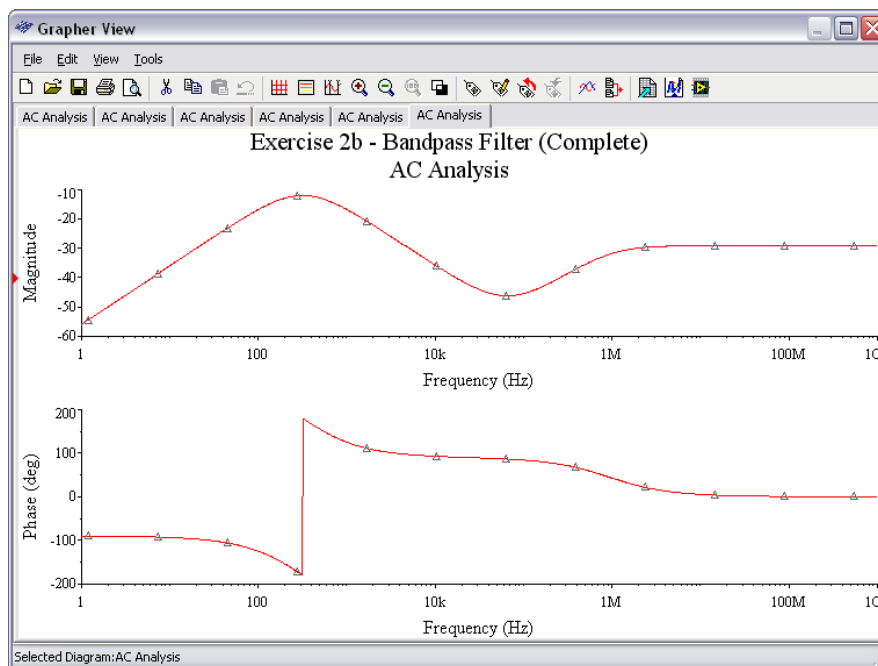

Figure E2-21. Grapher View with grid
2. Left-Click on the phase plot of the AC Analysis and click on the **Show/Hide Grid** button (Figure E2-20-1). The Grapher view will now look like figure E2-21.